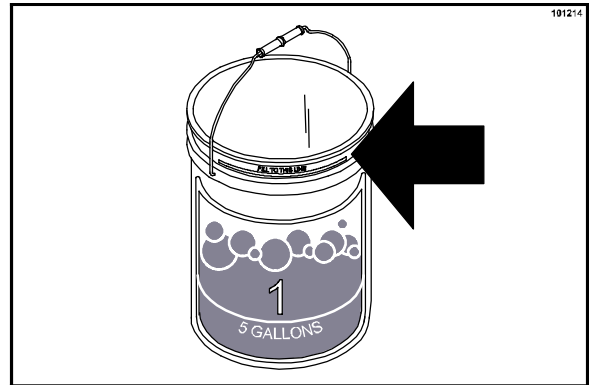

Figure 64
4. Using the sink proportioner, prepare an approved cleaning solution in the 5 gallon Cleaning Solution pail (pail #1). Fill the pail to the labeled level. (See Figure 64.)